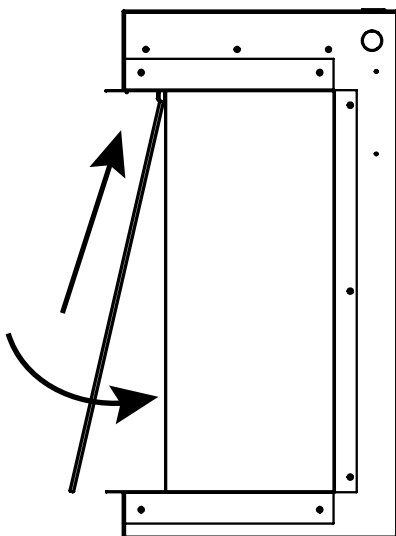

Figure 19: Front Glass - Step 1
1. Using the supplied suction cups, insert the front glass at an angle into the top channel (see figure 19).
2. Swing the front glass back until it is straight up and down (see figure 19).